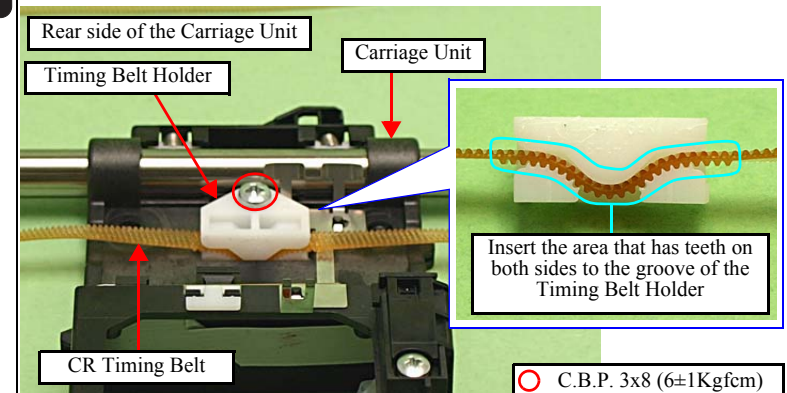

Figure 4-139. Installing the CR Timing Belt (1)
- When replacing the CR Timing Belt, insert the CR Timing Belt to the Timing Belt Holder, and install it to the Carriage Unit as shown in Fig. 4-139.